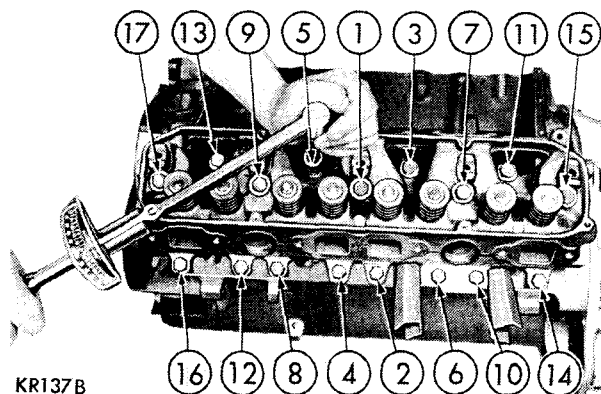
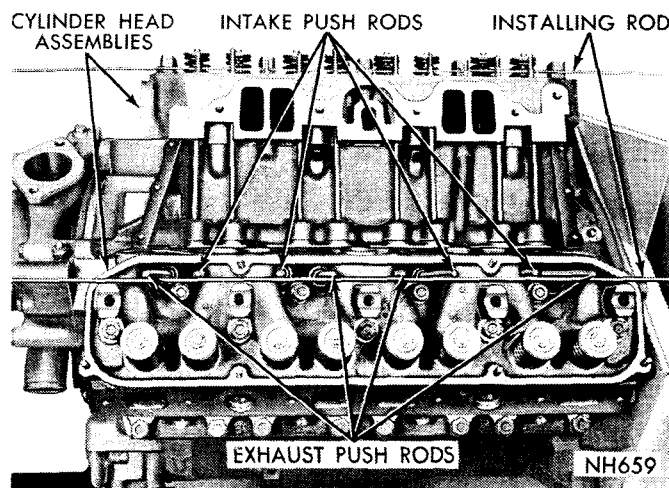

Fig. 5—Cylinder Head Tightening Sequence
Fig. 6—Push Rods Installed
- (1) Clean gasket surfaces of the cylinder block, cylinder heads and remove all burrs.
- (2) Inspect all surfaces with a straightedge if there is any reason to suspect leakage. If out of flatness exceeds .0075 times the span length in any direction; either replace head or lightly machine the head gasket surface. As an example, if a 12 inch span is .004 inches out of flat, allowable is $12 \times .00075 = .009$ inches. Head is OK.
- (3) Coat new gaskets lightly with a suitable sealer, Chrysler Number 1057794 or equivalent. Install gaskets and cylinder heads.
- (4) Install cylinder head bolts. Starting at top center, tighten all cylinder head bolts to 40 foot-pounds in sequence (Fig. 5).
- (5) Inspect push rods and replace any worn or bent rods.
- (6) Install push rods in the tappets maintaining alignment, using rod, (Fig. 6).
- (7) Install rocker arm and shaft assembly starting each push rod into its respective rocker arm socket making sure to install the long stamped steel re-